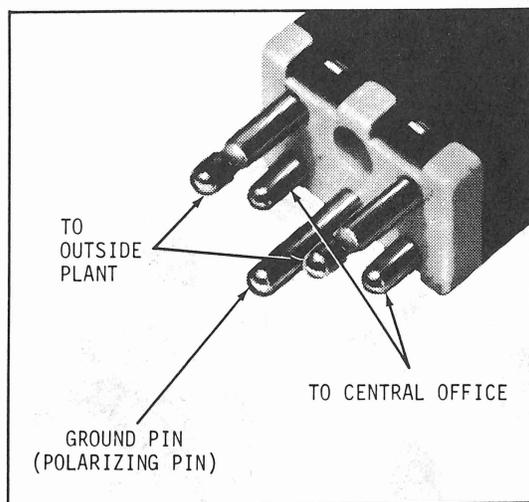

Figure 8. Protector Module Pin Details
3.01 Several types of protector modules are available to satisfy various C.O. requirements for line and equipment protection. The protector modules are all equipped with five contact pins and a plastic shell (see figure 8). The plastic shell for the module is made from a self extinguishing plastic insulating material. When inserted into the connector base, the contact pins provide the following contacts for one cable pair: